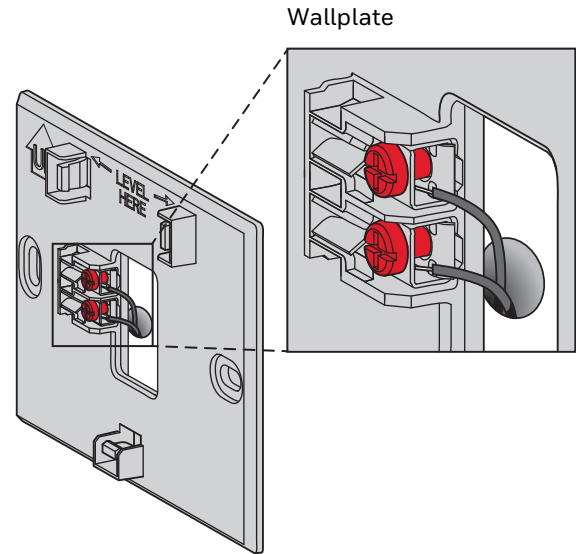

Fig. 322. Inserting wires in thermostat terminal block.
2. Loosen the screws for the appropriate terminals. Insert wires in the terminal block under the loosened screw. See Fig. 322.